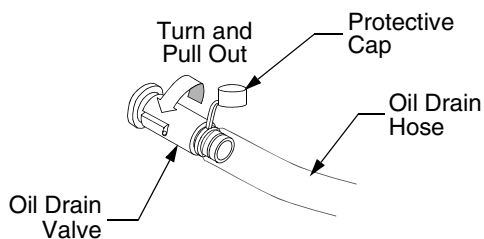

Figure 23
- Pop open the protective cap on the end of the oil drain valve to expose the oil drain port. See Figure 23.
- Push the oil drain valve in slightly, then rotate counterclockwise and pull outward to begin draining oil. See Figure 23.